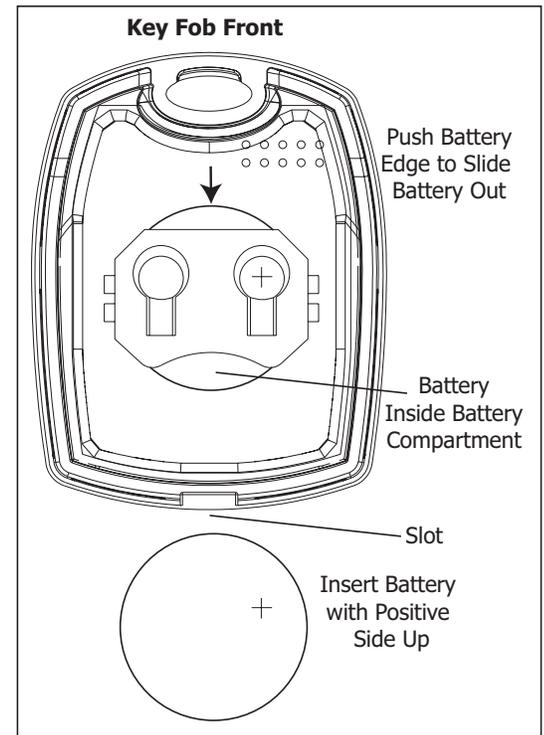

Figure 3: 1100INT Series Battery Location
2. Push and slide the old battery out of the holder in the direction of the arrow to remove it. See Figure 3.